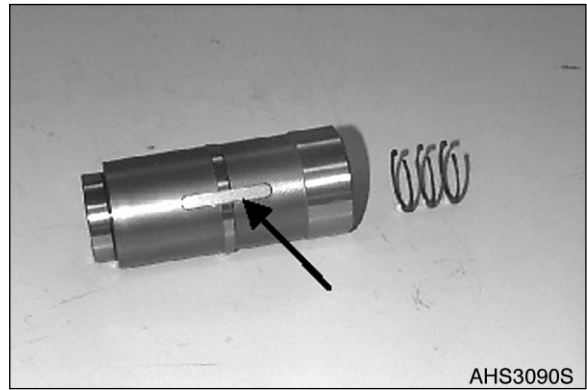

Figure 361
2. Squeeze V-rings (3x) into the recess of the driver (internal splines). Install fitting key (Figure 361).